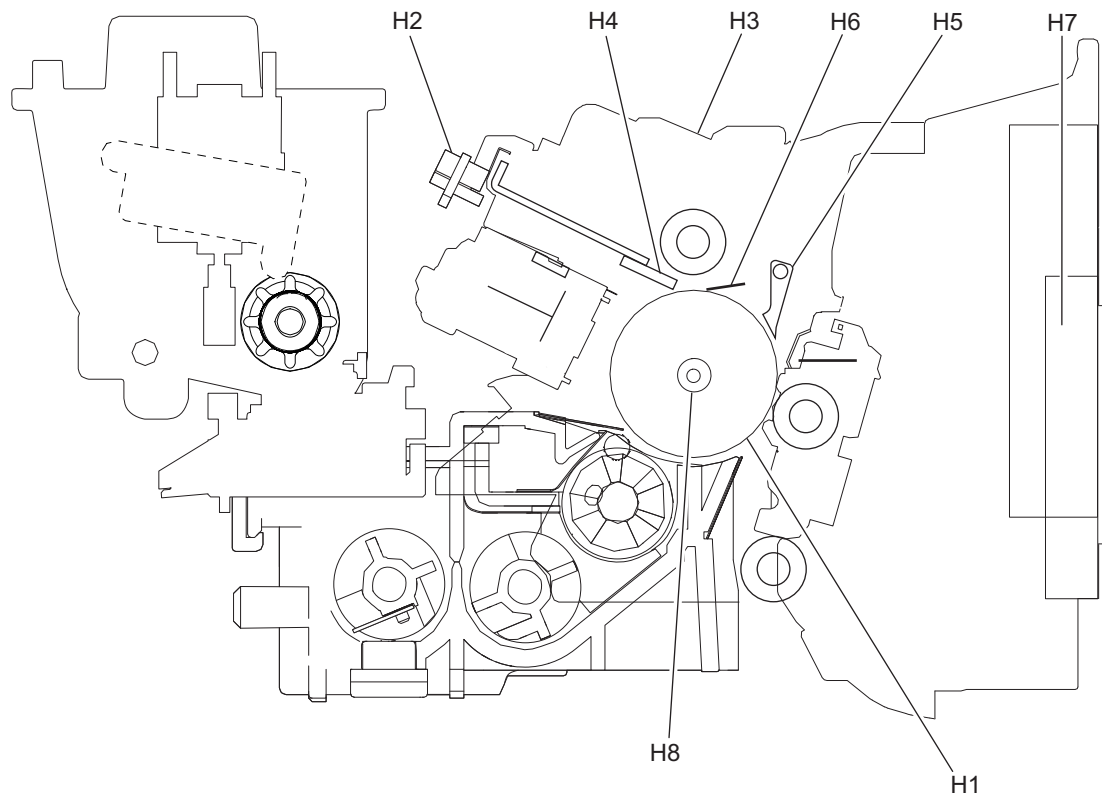

Fig. 7-17
- (1) Push in a new oil seal parallel to the mounting hole section of the developer frame or outside of the holder.
* Pay attention to the direction in which the oil seal is attached. (Refer to Fig. 7-17)
- (2) Apply an even coat of grease to the inside of the oil seal.
- (3) Wipe off any grease the exudes from the inside.